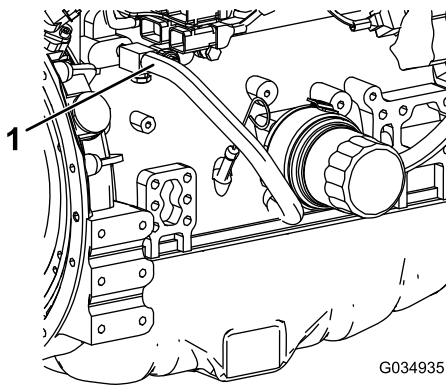

Figure 125
7. Remove the coolant hose from the engine-oil cooler (Figure 125).